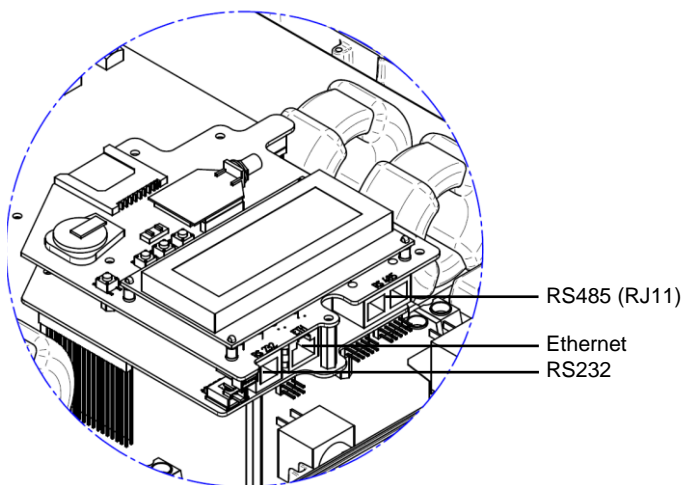

Figure 19: Ethernet and RS485 – RJ45/RJ11 Connectors
- Connect the Ethernet connector to the RJ45 plug on the board in the inverter, as shown in Figure 19.